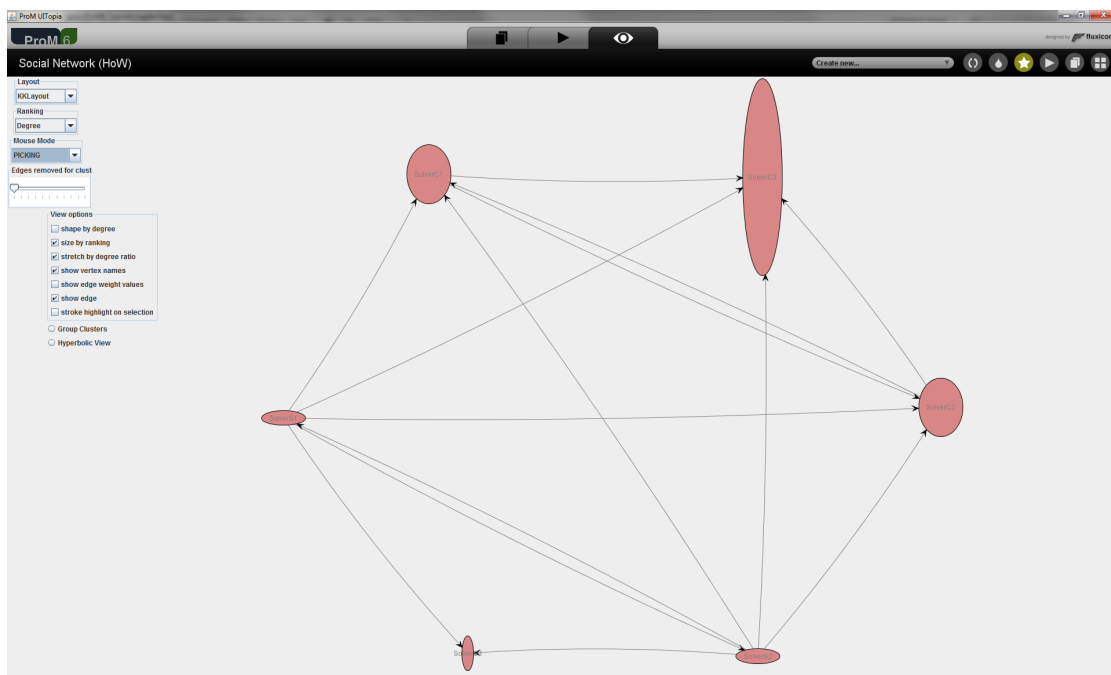

Figure 14: Handover of work for Solvers.
5. Select the options “size by ranking”, “stretch by degree ratio”, and set *Mouse Mode* to “Picking” (so you can use the mouse to re-arrange the nodes in the graph). You should get a result like the one in Figure 14. The resulting graph shows which employees handed over work to other employees in the process instances of our running example. By looking at this graph, we can see that the employees with roles “SolverS3” (bottom-left node) and “SolverC3” (top-right node) outperform the other employees because the telephones these two employees fix always pass the test checks and, therefore, are not re-sent to the Repair Department (since no other employee has to work on the cases involving “SolverS3” and “SolverC3”). The oval shape of the nodes in the graph visually expresses the relation between the *in* and *out* degree of the connections (arrows) between these nodes. A higher proportion of ingoing arcs lead to more vertical oval shapes while higher proportions of outgoing arcs produce more horizontal oval shapes. From this remark, can you tell which employee has more problems to fix the defects?